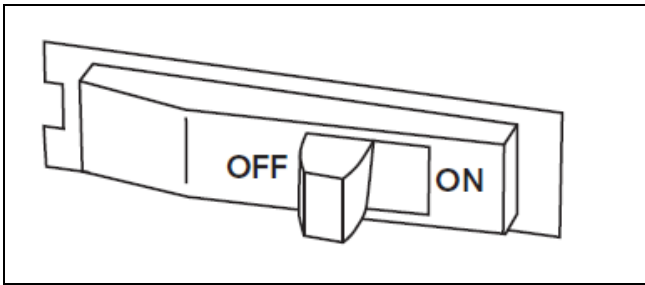

Figure 56
1. Ensure the breaker is switched off. See Figure 56.